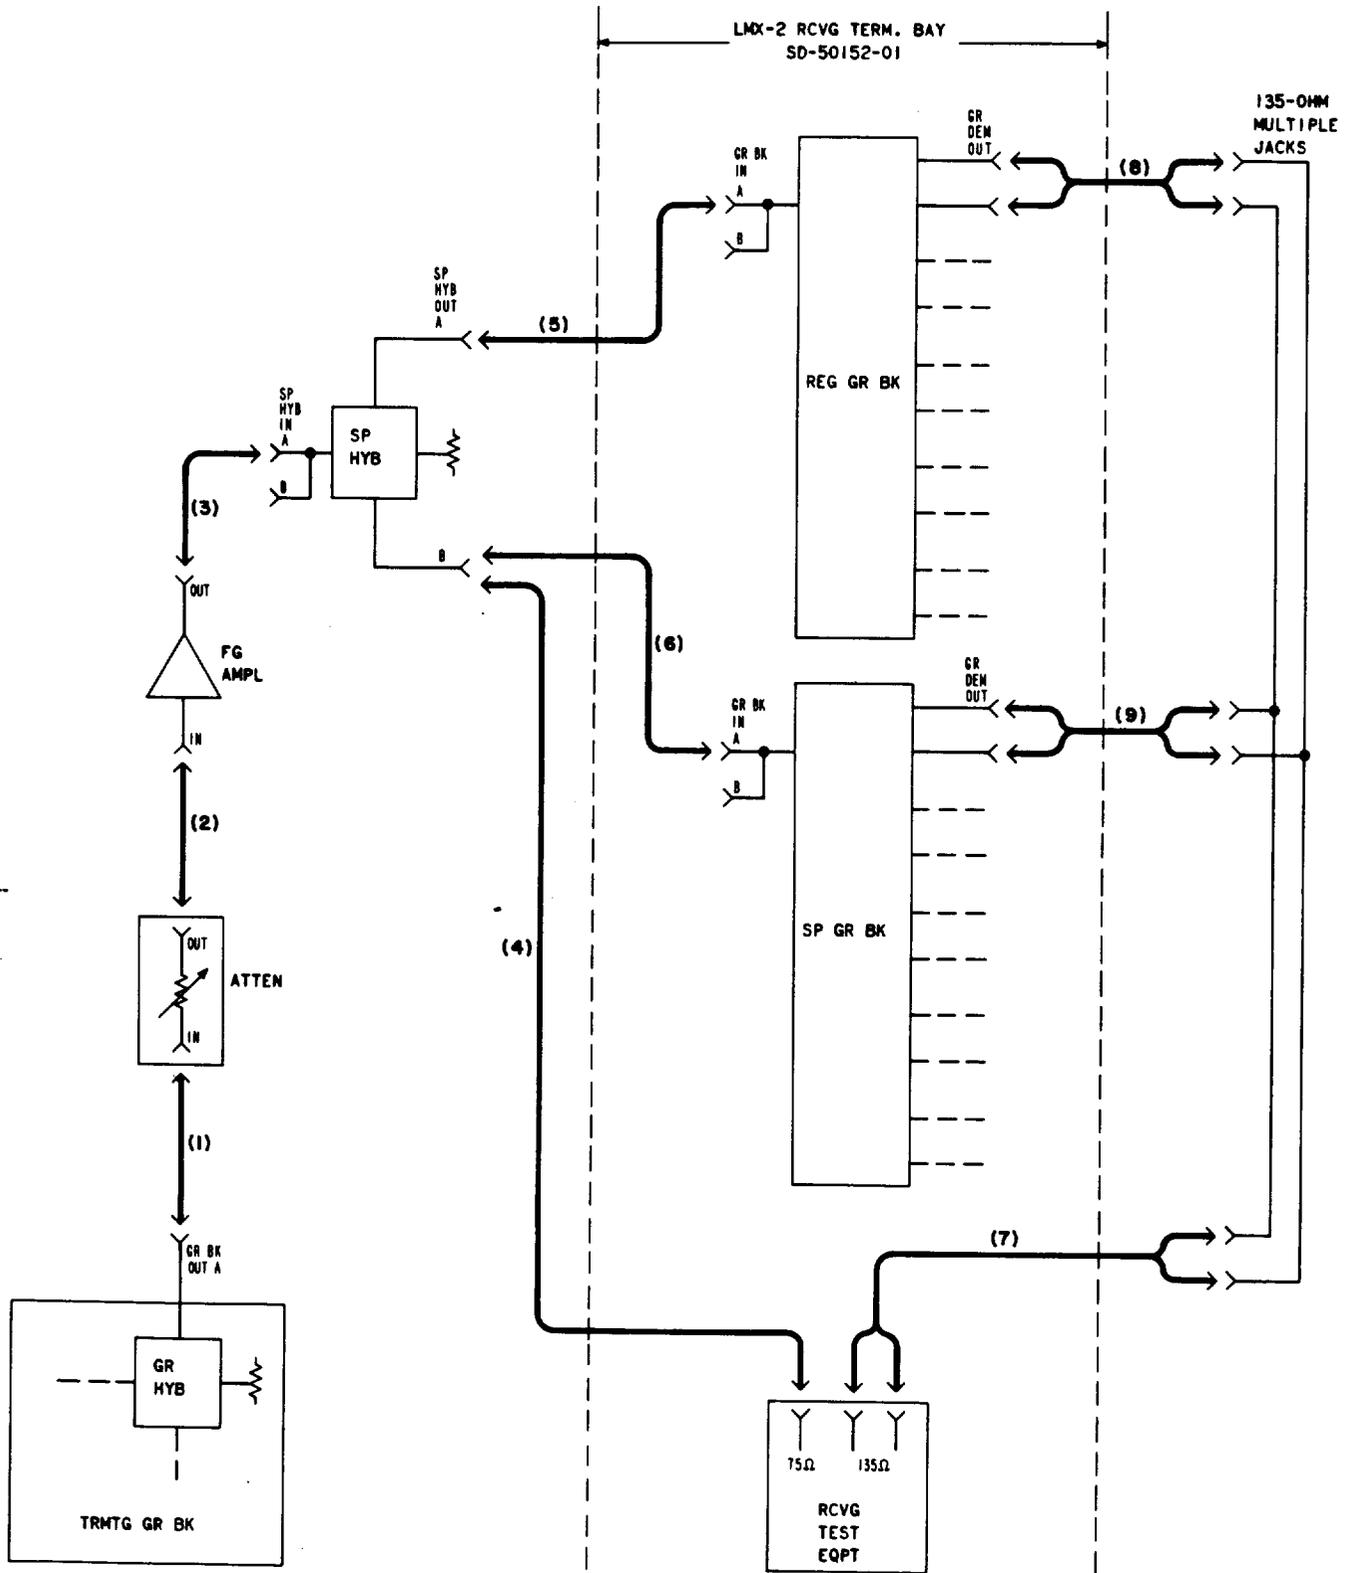

Fig. 1—Receiving Group Bank Circuits—Turnover Tests
3 Make patches designated (1), (2), (3), and (4) in Fig. 1 to a spare or out-of-service transmitting group bank.
4 Make patch designated (5) in Fig. 1 to a regular receiving group bank.
9	<p>Remove patch designated (4) in Fig. 1.</p>
10	<p>Make patch designated (6) in Fig. 1 to a spare receiving group bank.</p>
12	<p>Make patches designated (7) and (8) in Fig. 1.</p>
16	<p>Remove patch designated (8) in Fig. 1.</p>
17	<p>Make patch designated (9) in Fig. 1 to a corresponding spare group demodulator circuit.</p>
19	<p>Make patch designated (8) in Fig. 1.</p>
22	<p>Remove patch designated (9) in Fig. 1 as the initial step in verifying correction of the wiring turnover.</p>